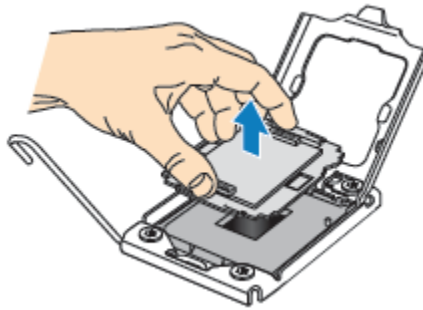

Figure 22. Remove the Socket Protective Cover
7. Remove the socket protective cover (see Figure 22).